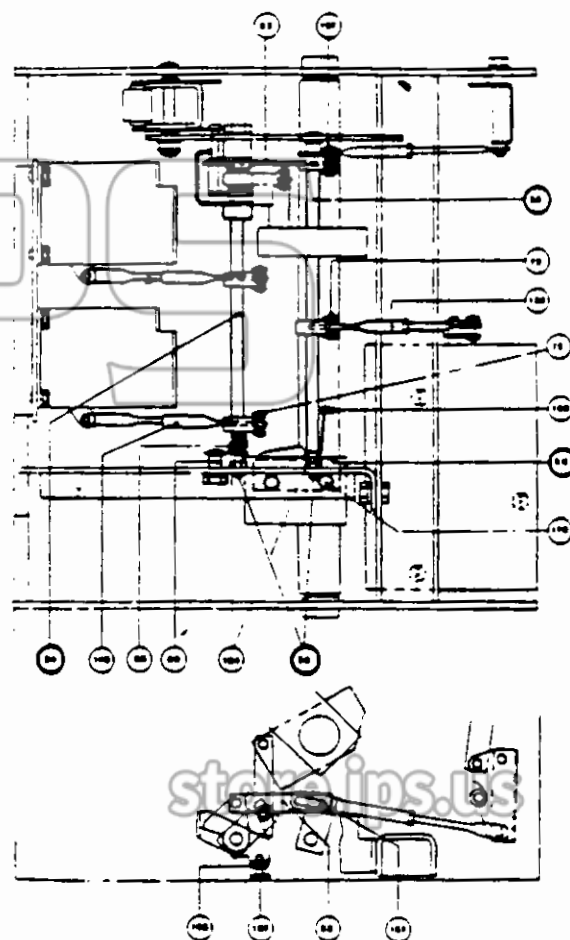

Fig. 34
- K. Limitswitch for Fault Indication (Fig. 34). The limitswitch for fault indication located on the underside of the element may be removed by breaking connections and removing screws as